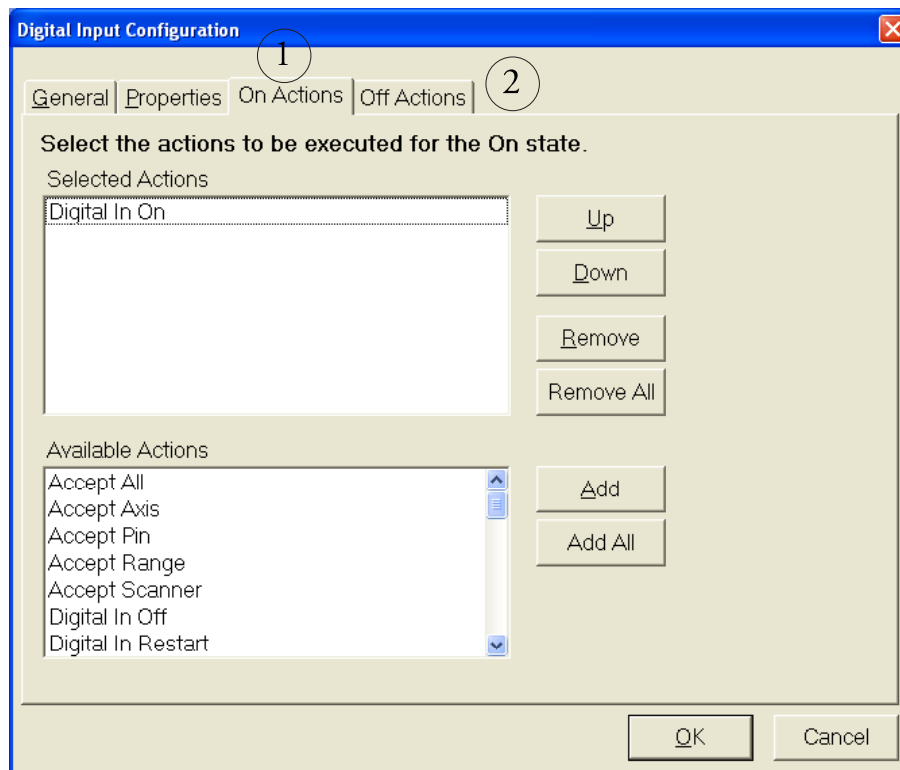

Figure 29. Digital Input Configuration panel—Action triggering setup.
1. Select the On Actions tab and select your desired On Action(s) in the list of available actions (*Part 1 in Figure 29*).
2. Off Actions tab (*Part 2 in Figure 29*).